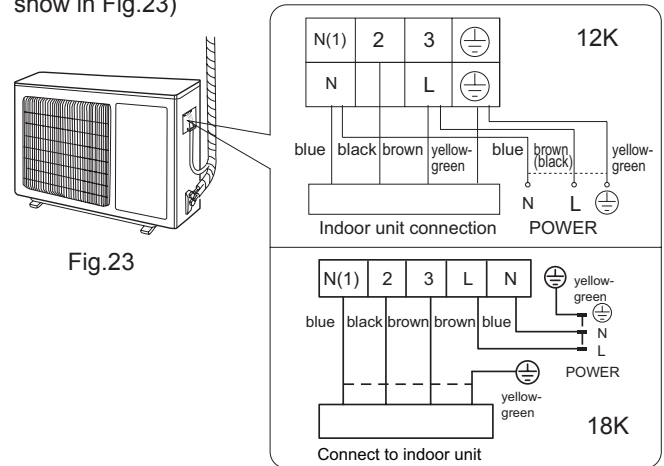

Fig. 23
- (1) Remove the wire clip; connect the power connection wire and signal control wire (only for cooling and heating unit) to the wiring terminal according to the color; fix them with screws.(As show in Fig.23)